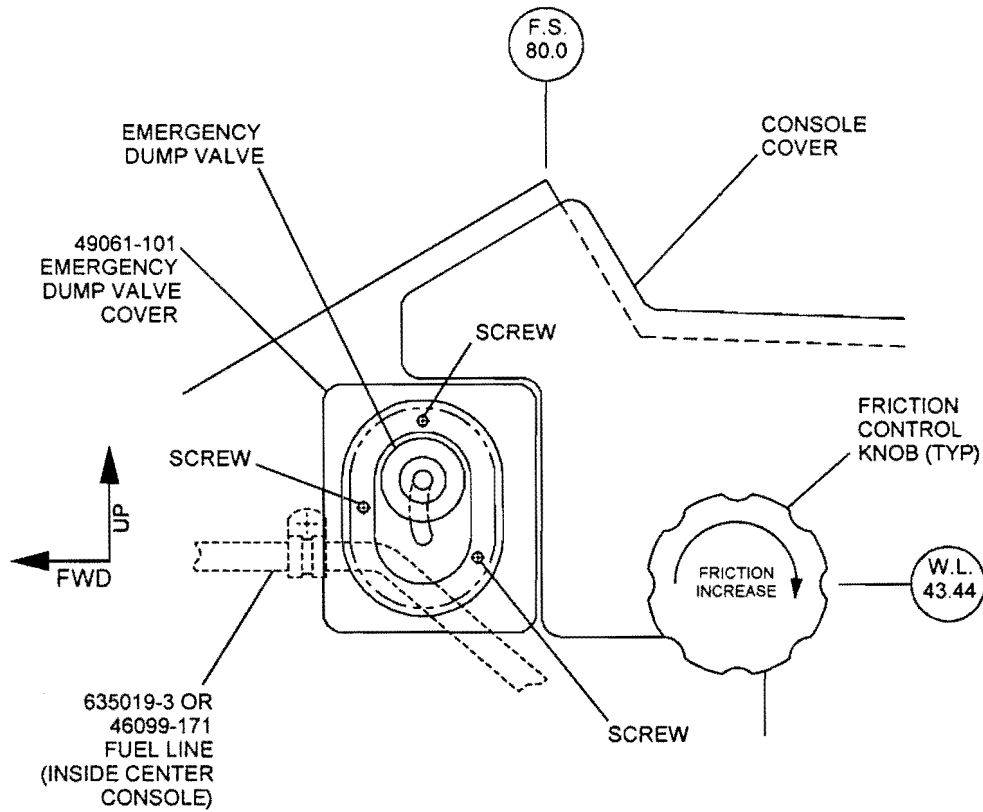

Figure 1
1. Verify that the hole pattern for the screws attaching the 49061-101 Emergency Dump Valve Cover to the center console match the hole pattern shown in Figure 1. Loosen the screws and verify that there are no additional holes to indicate that the 49061-101 Emergency Dump Valve Cover was installed upside down at some point.
2. If the hole pattern matches the pattern shown in Figure 1 and no additional holes are found, proceed to the RECORD COMPLIANCE section.
3. If the hole pattern does not match the pattern shown in Figure 1 or additional holes are found, proceed to Part II.
Refer to Figure 1 and Figure 2